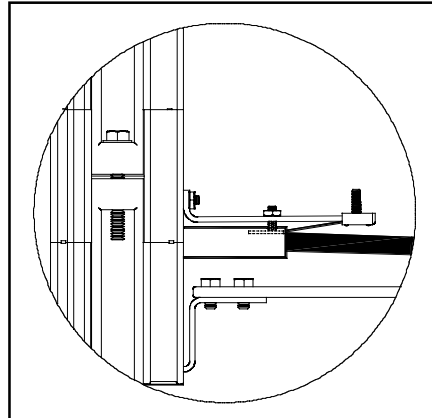

FIGURE 17 – SECURE SHIELD CONNECTOR TO L-BRACKET
9.02 Attach shield connector and/or bonding assembly to the slot in the previously installed "L" bracket (Figure 17).